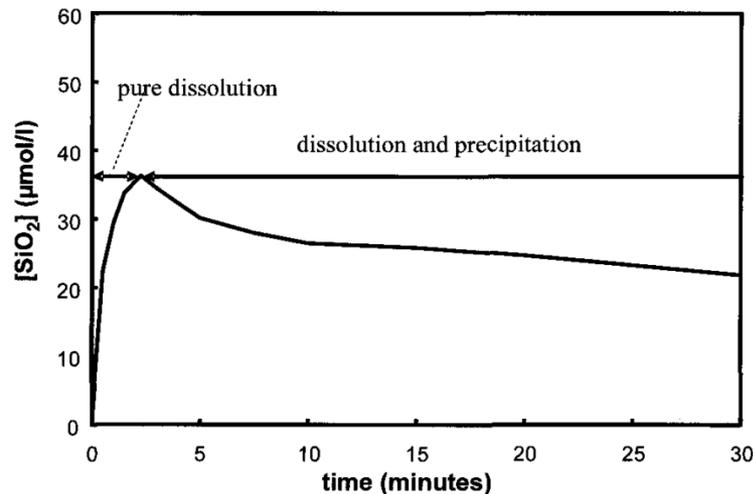

Fig. 1 - Variation of the silica concentration against time during Ca₃SiO₅ hydration in saturated lime solution.
Fig. 1. STM and AFM imaging of pentacene on Cu(111). (A) Ball-and-stick model of the pentacene molecule. (B) Constant-current STM and (C and D) constant-height AFM images of pentacene acquired with a CO-modified tip. Imaging parameters are as follows: (B) set point $I = 110$ pA, $V = 170$ mV; (C) tip height $z = -0.1$ Å [with respect to the STM set point above Cu(111)], oscillation amplitude $A = 0.2$ Å; and (D) $z = 0.0$ Å, $A = 0.8$ Å. The asymmetry in the molecular imaging in (D) (showing a “shadow” only on the left side of the molecules) is probably caused by asymmetric adsorption geometry of the CO molecule at the tip apex.